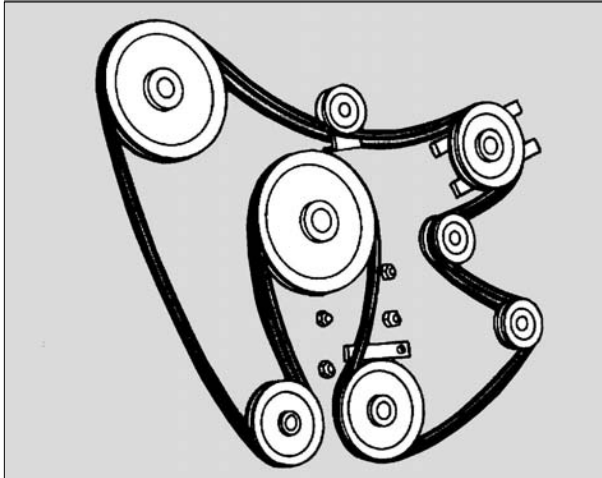

Fig. 17 – Loosen all belts if stored on the machine in off seasons
- If belts are not removed, relieve belt tension by loosening all tighteners (Fig. 17). This is necessary to prevent the belt from “setting” or developing unequal stresses that might lead to early failure